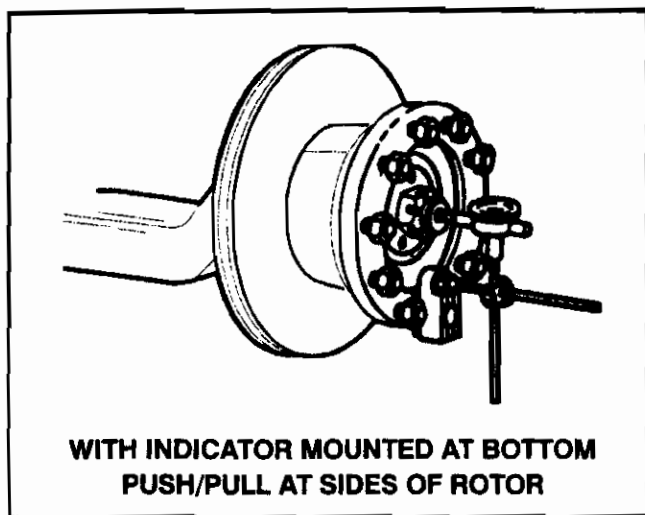

Figure 4. Dial indicator installed
1. Attach a dial indicator (Figure 4).